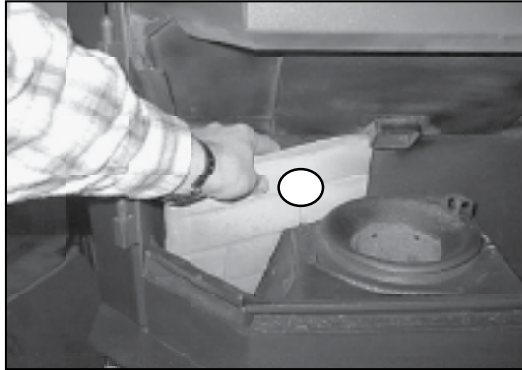

Figure 23.1
1. Slide bottom of left rear brick in first; rotate top edge toward rear of appliance and then rotate outer edge toward rear of appliance, until brick slides into place. **Figure 23.1.** Repeat for right rear brick.